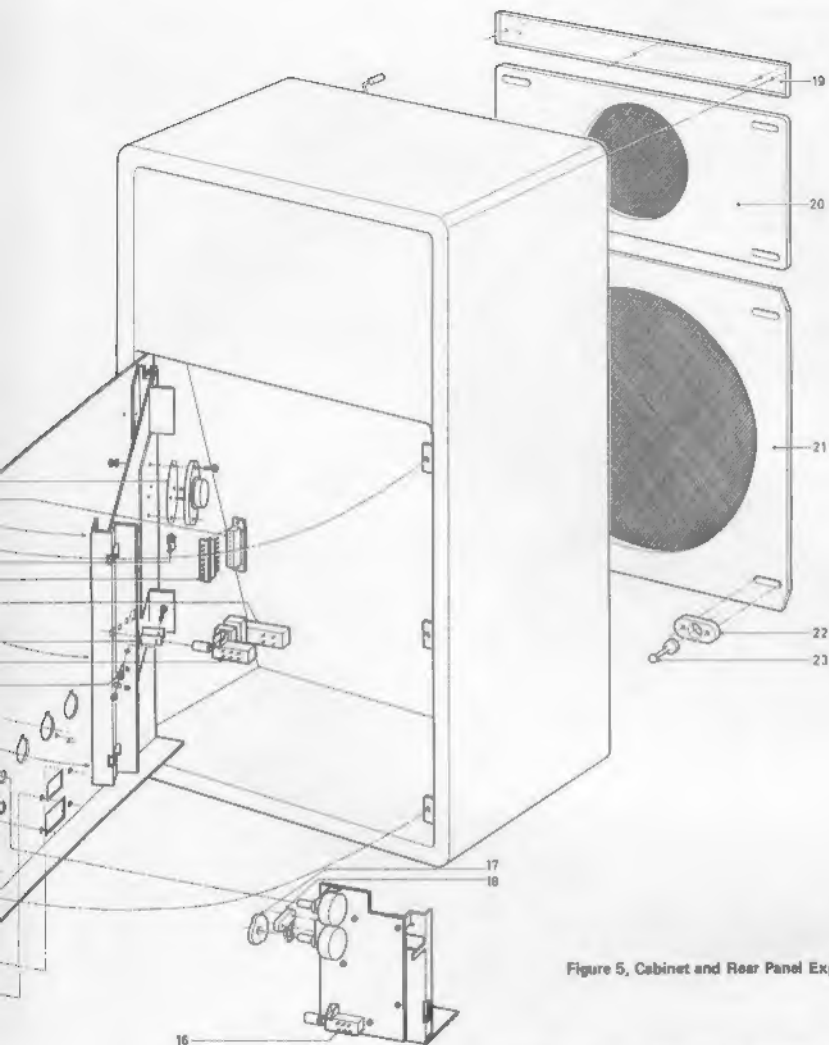

Figure 5, Cabinet and Rear Panel Exploded View
### Chassis Access (Refer to Figure 5)
1. Remove the five screws securing the rear panel to the speaker enclosure. These screws are designated by an "O" on the rear panel and an "A" in Figure 5.
3. To completely remove the rear panel from the speaker enclosure, disconnect Plug (4) from Socket (2) and lift the rear panel up and out of the hinge brackets.
4. To reassemble, reverse the preceding steps, making certain Plug (4) is inserted properly into Socket (2). This is accomplished by placing the referenced end of the plug adjacent to the referenced end of the socket.
### Main PC Board Access (Refer to Figure 5)
CABINET REPLACEMENT PARTS LIST (Refer to Figure 5)